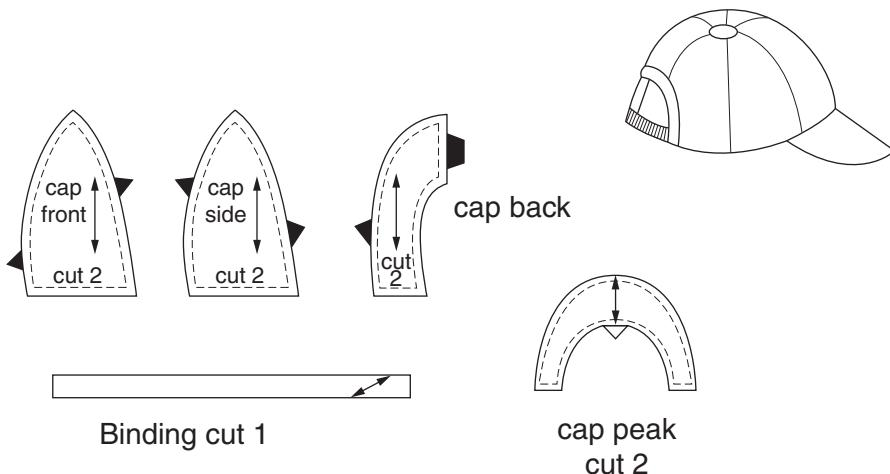

Fig. 2
- 2 Fig. 2 shows a baseball cap and the pattern pieces used to make it.